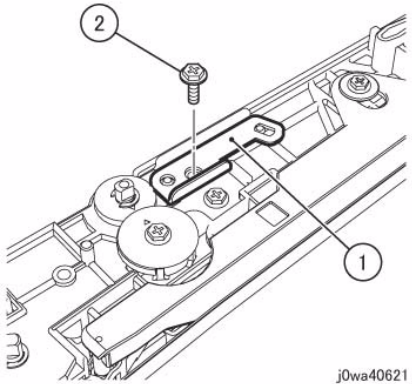

Figure 13 Install the Tension Plate
- Install the Tension Plate. (Figure 13)